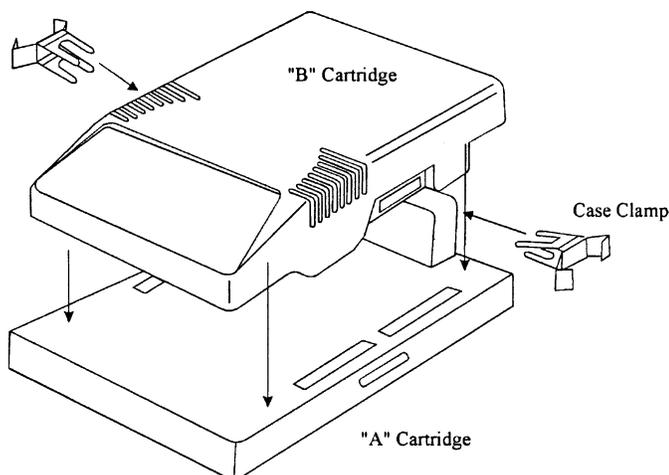

Figure 12 : Case Clamp Installation
2. To remove the existing 釘” cartridge from the 鄭” cartridge, pull the old case clamps apart (see Figure 12). Carefully remove the old 釘” cartridge and install the new 釘’ cartridge. Re-install the case clamps.